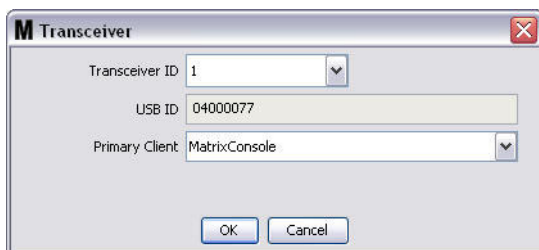

FIG. 88
3. The Modify screen shown in FIG. 88 displays. On this screen you can modify the Transceiver ID assigned to the transceiver and assign a Primary Client. Although the USB ID is listed on this screen, it is not an editable field. It is provided for information only.